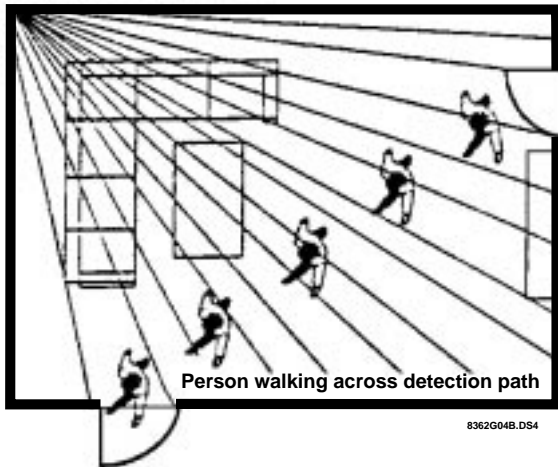

Figure 3. Overhead (Bird's Eye View) Detection Path
- Position the sensor to protect an area where an intruder would be most likely to walk *across* the detection pattern (see Figure 3).